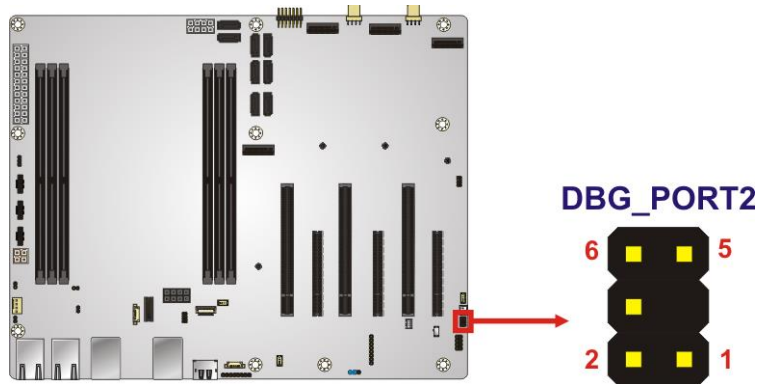

Figure 3-11: Debug 80/81 Port Location
- CN Location:** See **Figure 3-11**